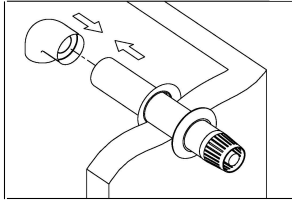
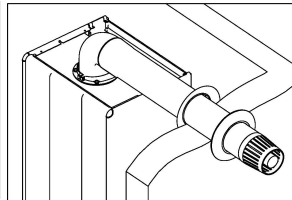
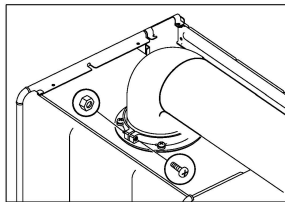

Figure 9c
Figure 9d
Figure 9e
- In order to group the flue outlet terminal, apply the exterior wall (EPDM) gasket to flue terminal as seen in Figure 9c. After passing the flue outlet terminal through the exterior side of the wall and from the previously opened hole, connect the interior wall connection gasket to flue terminal. Apply the other end of the EPDM connection gasket of your combi boiler -which is applied to flue bend of 90°- to the flue outlet terminal, and apply the clamp on the EPDM connection gasket and loosely tighten it with screw (Figure 9d). And then place the bend of 90° on the flue connection flange, and fix with tightening screws (Figure 9e). Finally, after tightening the screws which are placed on EPDM gasket and which are left loose, enable the flue and wall tightness by pushing the interior wall connection gasket as to touch the wall.